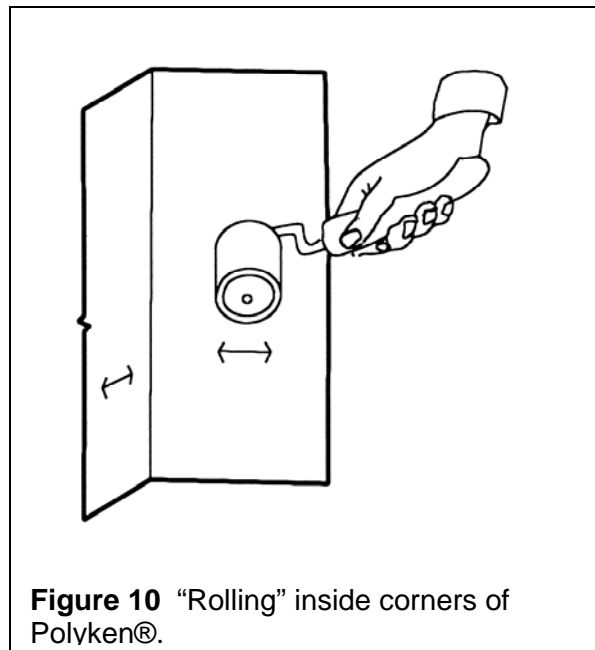

Figure 10 "Rolling" inside corners of Polyken®.
1. Roll inside corners perpendicular to the corner with a back-and-forth motion gradually moving the roller up and down the length of the corner. See Figure 10.